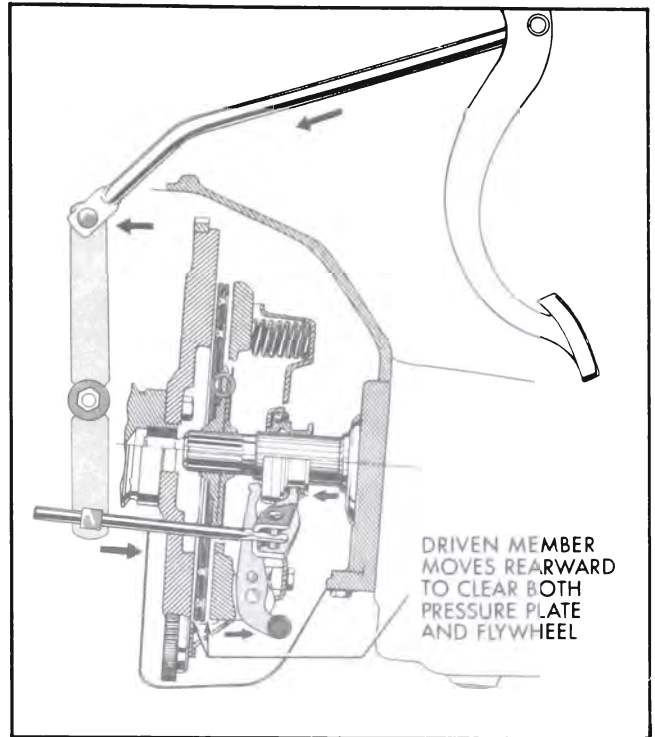

Figure 4-4—Clutch Releasing Action
A pedal rod extends through the cowl to connect the pedal to the clutch release equalizer. The equalizer pivots between the engine at one end and the frame at the other. The clutch release rod and adjusting swivel extends from the equalizer to the clutch release fork. See Figure 4-4.
1. Make certain that clutch pedal returns firmly against pedal bumper when pedal is released. If pedal does not contact bumper, check pedal and linkage for binding or lack of lubrication. See Figure 4-4.